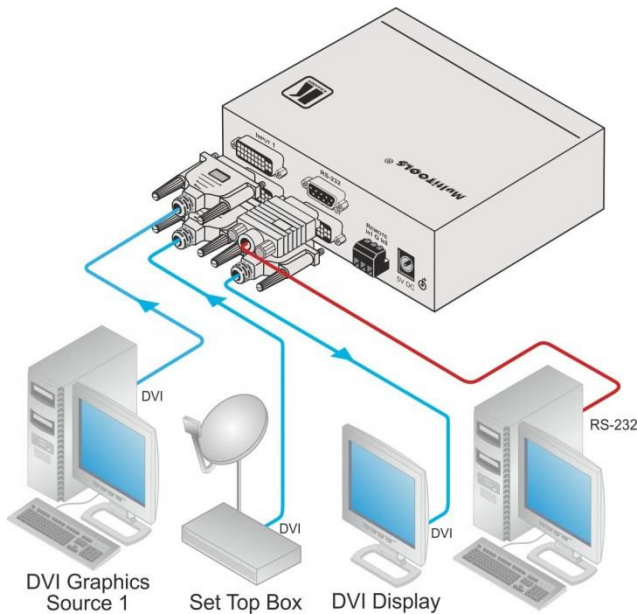

Figure 2: Connecting the VS-21HDCP-IR 2x1 DVI Switcher
To connect the **VS-21HDCP-IR** as illustrated in the example in Figure 2:
3. Connect the 5V DC power adapter to the power socket and connect the adapter to the mains electricity (not illustrated in Figure 2).
5. Press the SELECT button to choose which DVI input to route to the output. The SELECT button toggles between INPUT 1 and INPUT 2, lighting the IN 1 LED when INPUT 1 is selected, or the IN 2 LED when IN 2 is selected. Alternatively you can press key 1 or 2 on the remote transmitter, once setup (see Section 4.2), or use the contact closure remote control pins (see Section 4.3) or use RS-232.